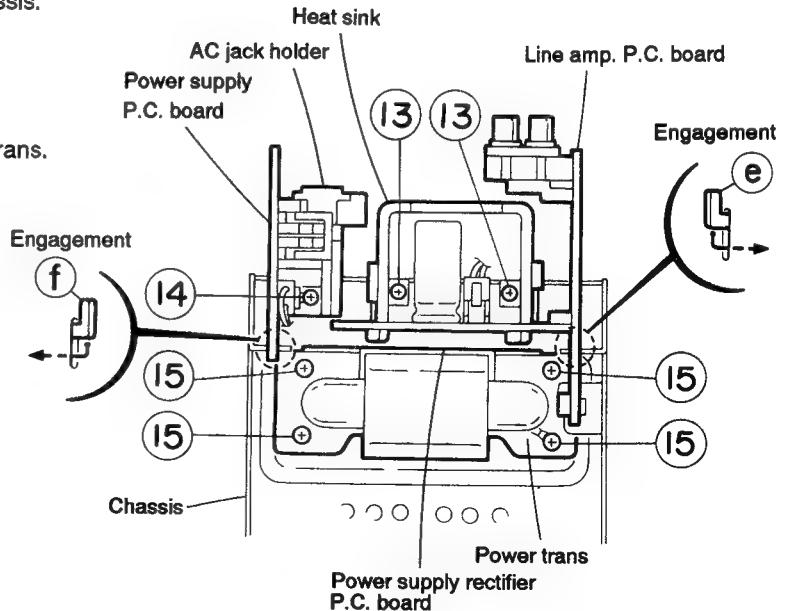

Fig. 5-18
■ Removing the line amp. P.C. board and power supply P.C. board (See Fig. 5-18)
1. Remove the two screws ⑬ retaining the heat sink.
2. After raising the line amp. P.C. board, disengage the two engagement ⑭ between the P.C. board and chassis.
3. Remove the one screw ⑮ retaining the AC jack holder.
4. After raising the power supply P.C. board, remove the engagement ⑮ between the P.C. board and chassis.
■ Removing the power trans. (See Fig. 5-18)